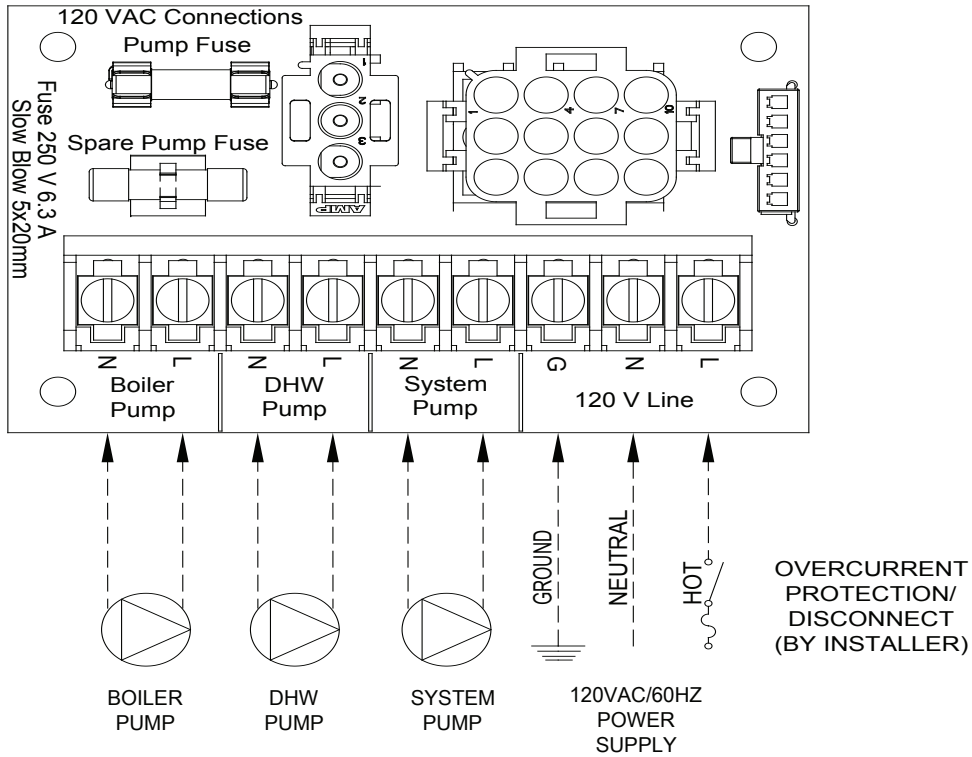

Figure 10.2: High Voltage PCB Terminal Connections
- 1) Line Voltage (120 VAC) Field Connections – See Figure 10.2 for line voltage connections. Provide a dedicated circuit for the boiler of 15A or greater. A service switch is recommended and is required by many local codes. Locate this switch in accordance with local codes or, in the absence of any, in a location where it can be safely accessed in an emergency involving the boiler. All 120VAC connections to the boiler itself are made on the terminal strip on the high voltage PCB located on the left side of the wiring compartment. 120VAC connections on the terminal strip are: